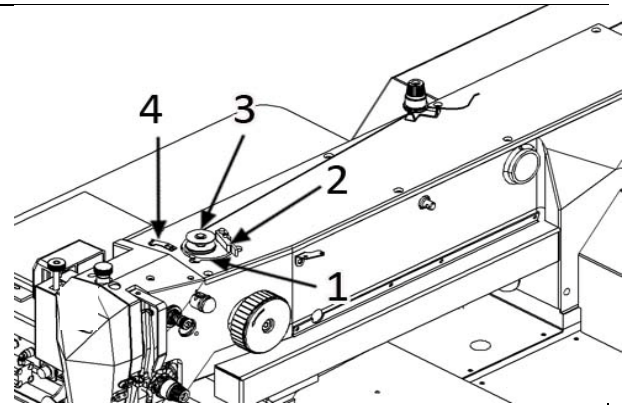

Fig. 13
- A) Insert the bobbin (3) on bobbin winder shaft (1).
- B) Press the winder lever (2) to activate the operation and start the machine.
- C) When the bobbin is fully wound with thread, the winder lever releases the bobbin. Cut the thread by knife (4), see fig. 13